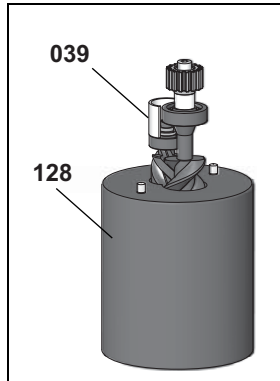

Fig. 8
3. Pull the distance sleeve **039** together with the set of screws out of the measuring housing, see Fig. 8, page 31.